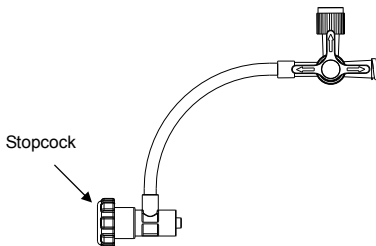

Fig.5 Haemostatic valve
- 3) Haemostatic valve (Fig.5)